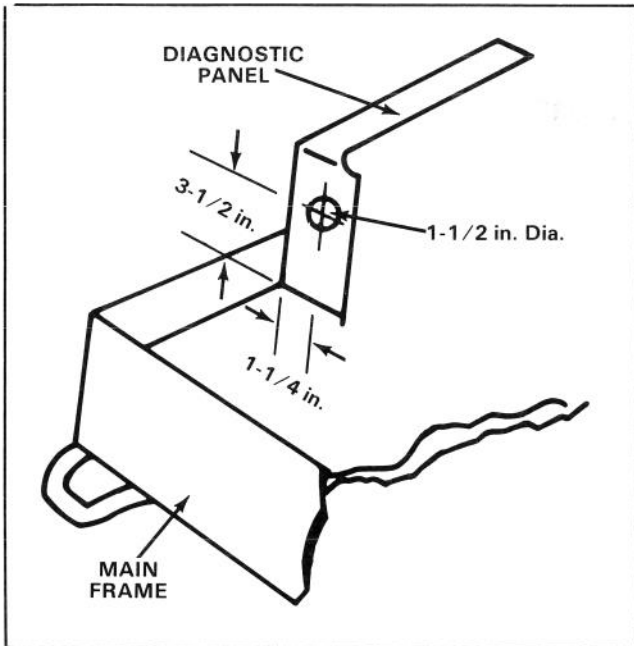

Figure 3
- From the front lower edge of the panel, measure and mark $3-1/2$ in. up the cover (Fig. 3).
- From the outer edge, measure $1-1/4$ in. and center punch where it intersects the $3-1/2$ in. mark (Fig. 3).
- Drill a $1-1/2$ in. diameter hole in the cover (Fig. 3).
- Install a P/N 240-3 grommet in the hole (Fig. 3).